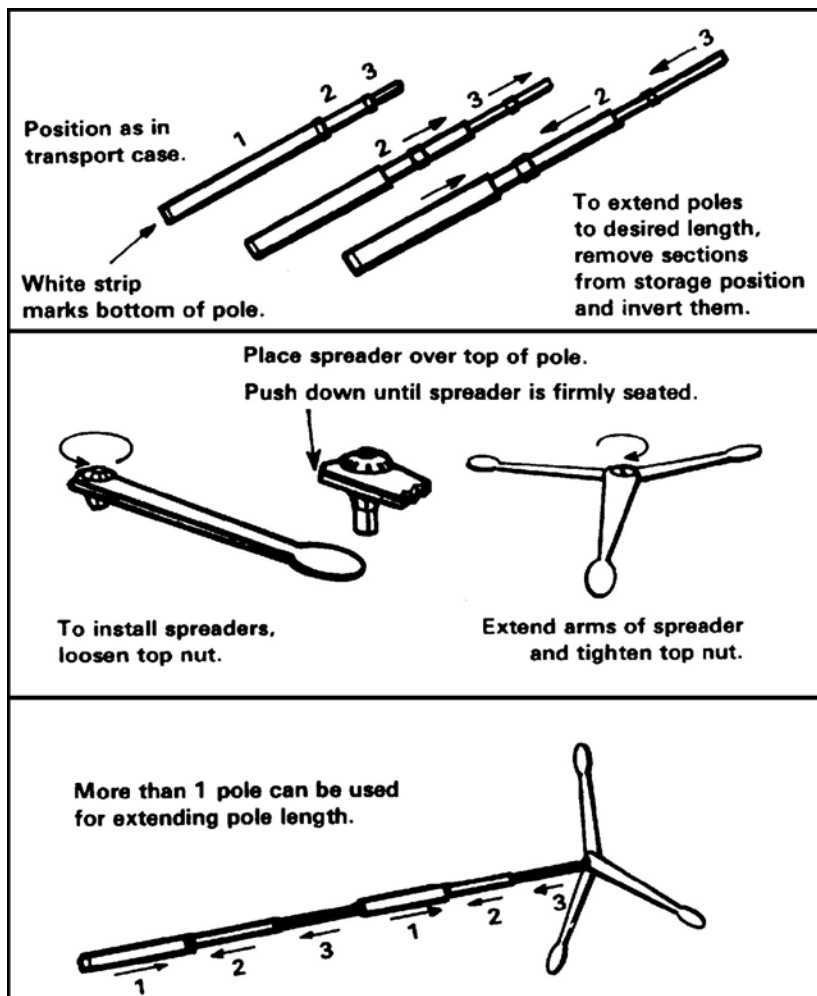

Figure 2. Net Poles and Spreaders
- (2) To raise the LSS nets, the crew must use poles (Figure 2) or small trees with small branches at the top.